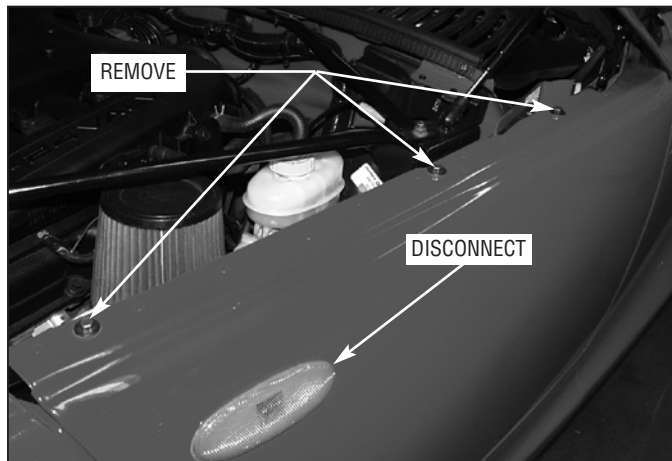

Fig. 2-1
- B. Using a 10mm socket, remove the 3 bolts securing the body panel immediately in front of the driver's door. Pull it out at the top then lift up to remove. Disconnect the side marker light. (See *Fig. 2-1*.)